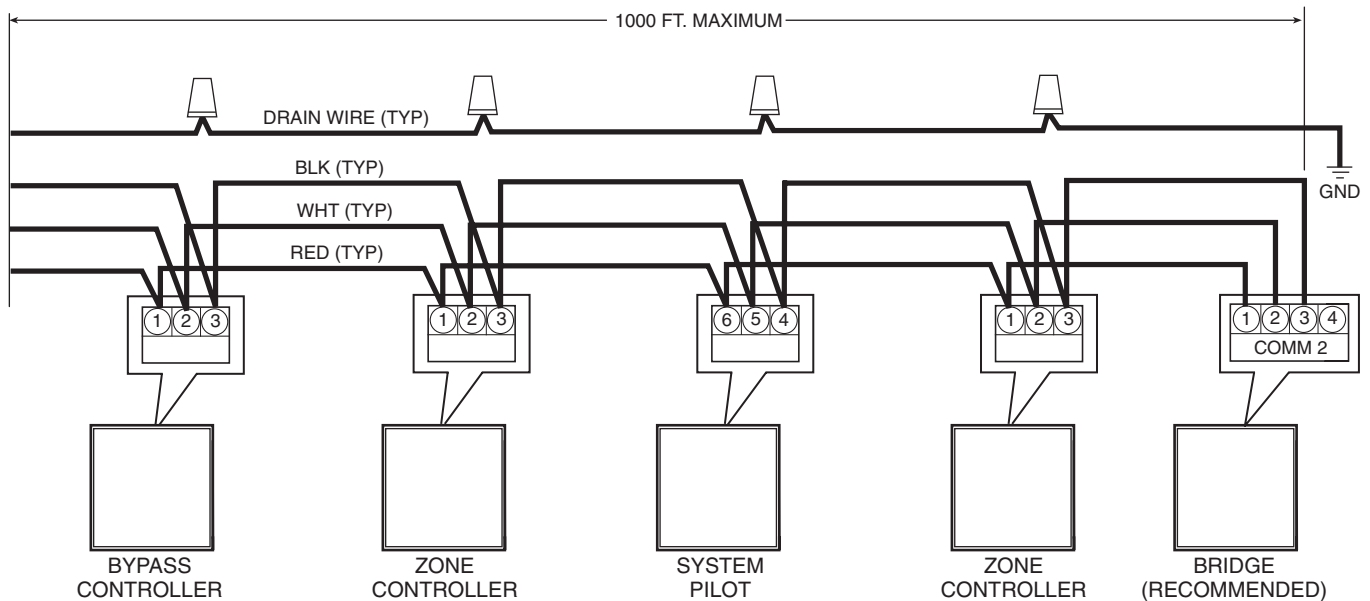

Fig. 11 — Communication Bus Wiring
The first device in a network connects directly to the bridge and the others are wired sequentially in a daisy chain fashion. Refer to Fig. 11 for an illustration of communication bus wiring.
4. Connect additional devices in a daisy chain fashion, following the color coded wiring scheme in Table 4. Refer to Fig. 11.